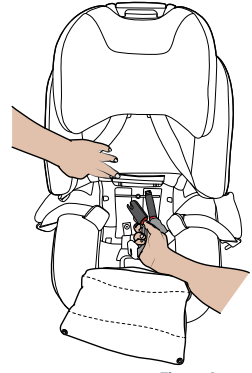

Figure 9
Step 2. Unclip the ISOGO connectors from the storage rod by pushing the buckle button (Figure 9).